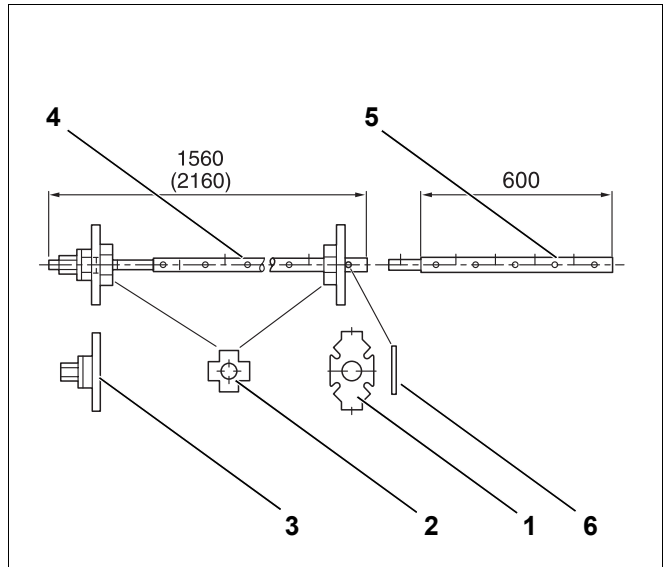
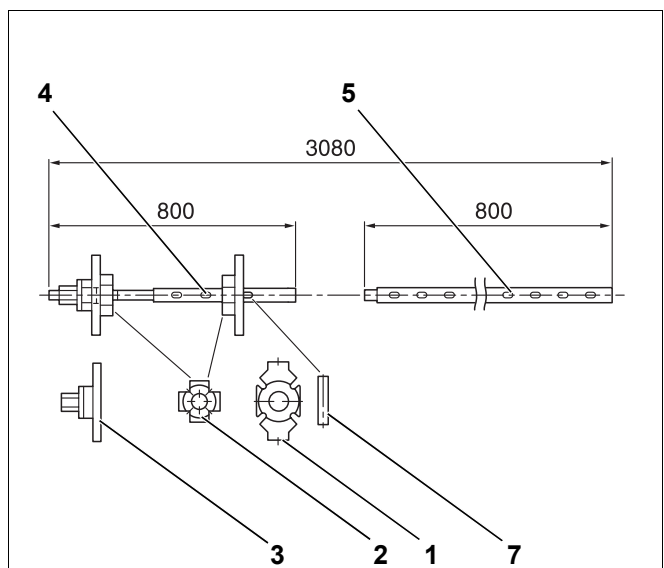
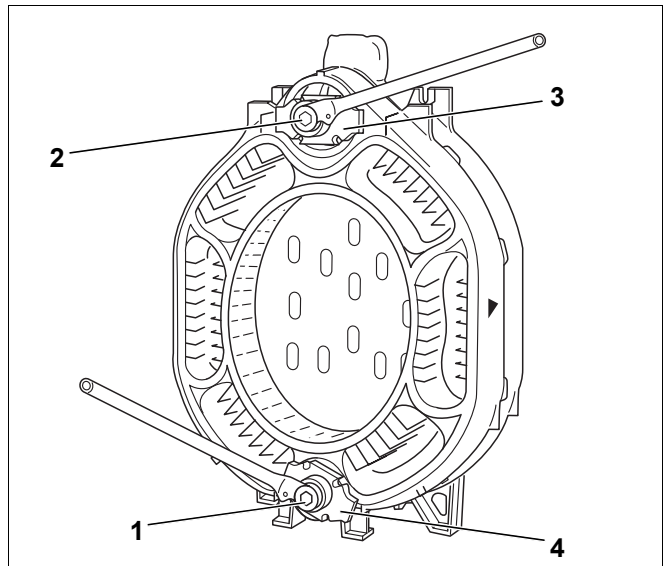

Fig. 1 Boiler compression tool size 2.2
Fig. 2 Boiler compression tool size 2.3
Fig. 14 Application of the boiler compression tool
- Boiler tensioning tool 2.2 (Fig. 1) or 2.3 (Fig. 2)
Legend for (Fig. 1) and (Fig. 2):
Now compress the boiler block section with the compression tool (Fig. 14).
Use only boiler compression tools size 2.2 or 2.3 (Fig. 1 or Fig. 2 and Fig. 14, **Item 1 & 2**).
- Push the compression units (Fig. 14, **Item 3 & 4**) onto the pull rods (Fig. 1 or Fig. 2, **Item 4**).